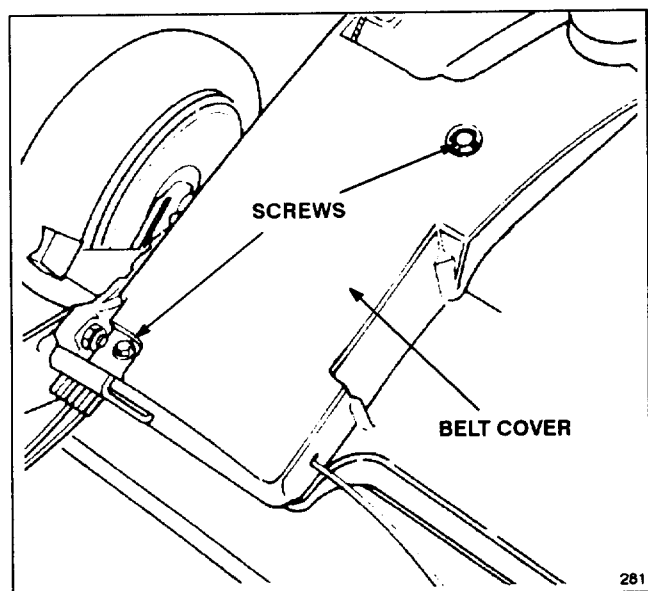

Figure 11
6. Remove screws securing belt cover (Fig. 11) to mower housing. Lift off cover and brush out all debris from belt area. Reinstall belt cover.